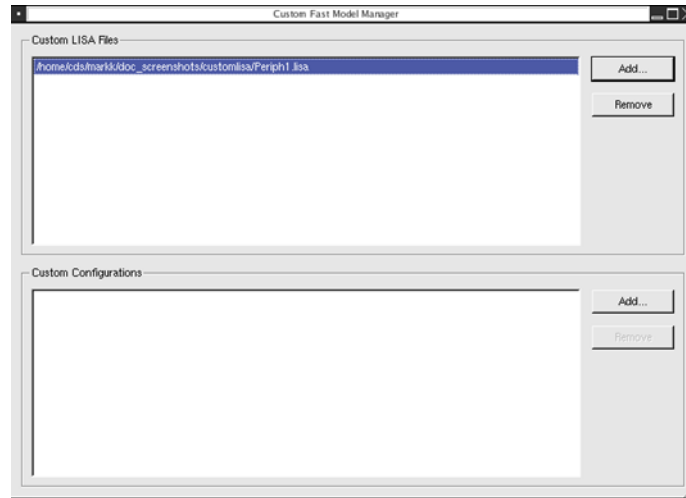

Figure 6-3 Custom Fast Models Manager dialog showing path
3. Click **Import** to finish the component import. The file is parsed and added to the list of saved configurations (Figure 6-3). The component is also added to the set of available